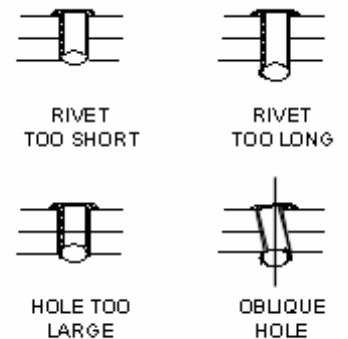

Figure 5. Rivet Installation Problems.
9. Make sure riveted parts are not loose, rivet does not rotate, and rivet head is seated tightly against riveted surface. If rivet is loose or improperly installed, remove the rivet and repeat steps (1) through (10). Refer to Figure 5 for this step.